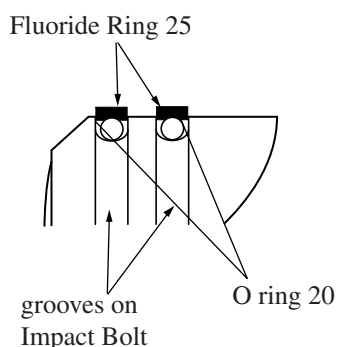

Fig. 22
1. After installing fluoride ring 20 on impact bolt, the ring comes stretched and its edge come protruding from the groove. (see Fig. 22)